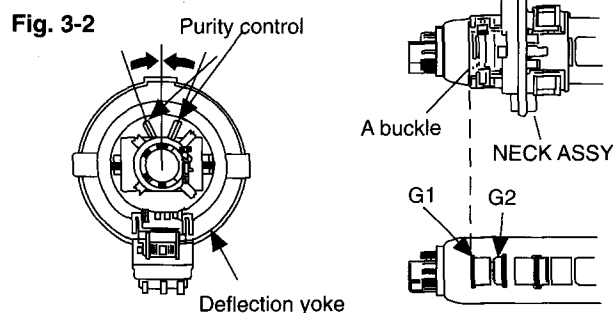

Fig. 3-2
2. Position neck assy as shown in Fig.3-2.